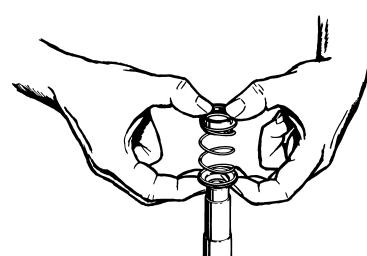
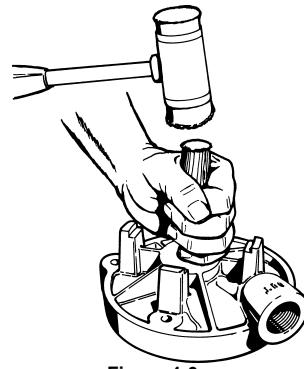

Figure 4-3
Figure 4-6
8. Remove the rotating element from the sleeve. Refer to Figure 4-3. The element normally adheres tightly to the sleeve and some force may be necessary to remove it. This is common and if care is taken, the element can be reassembled and reused. **It is recommended that a new rotating element be used for reassembly.** DO NOT attempt to remove the seal using a screwdriver or other sharp object. Extensive damage to the shaft, sleeve, or element could occur.
9. Before the motor bracket (#1) can be removed, the four (4) "O" rings (#8), located on the upper left and right studs must be removed.
10. Remove the seat portion of the seal. Refer to Figure 4-6.